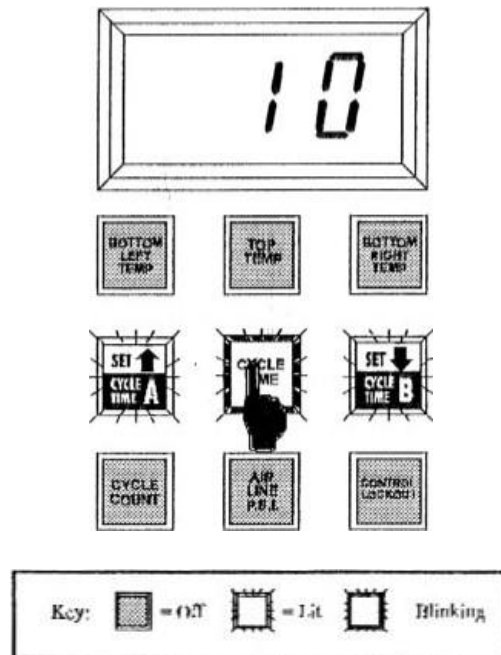

Figure 5-1
- While the control panel is in Monitoring Mode, press and release either Cycle Time A or Cycle Time B buttons to select the cycle time that you want to set. After selecting either Cycle Time A or Cycle Time B, press and hold the Cycle Time button. After approximately two seconds, the panel's Up Arrow and Down Arrow buttons will light and the Cycle Time button blinks, as shown in Figure 5-1. This puts the control panel in the Set Mode. Release the Cycle Time button. The control panel will display the current setting for the cycle dwell time.